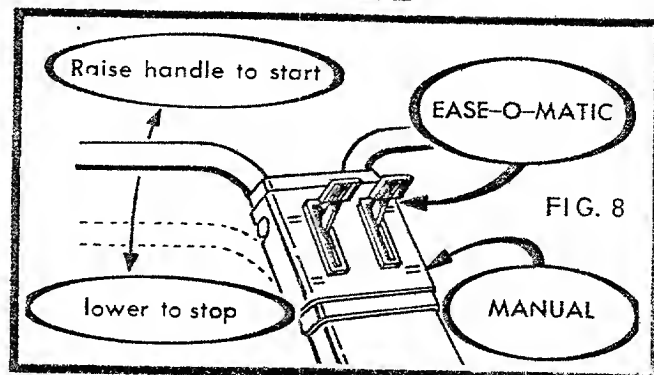

FIG. 8
1. (Fig. 7) (Fig. 8) Set hand control lever in EASE-O-MATIC position and handle in stand-up position.
1. Place hand lever in MANUAL position. (Fig. 8)